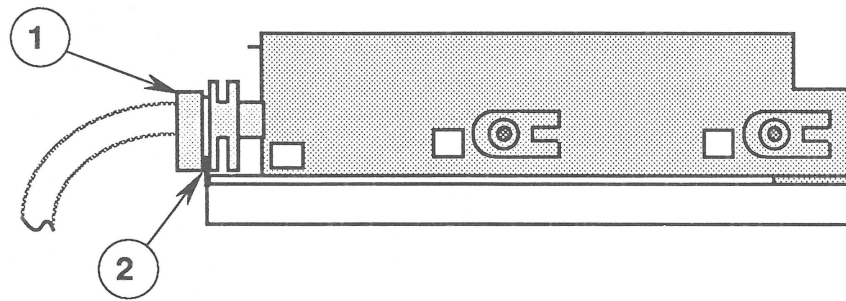

FIGURE 6
5. Replace the outermost groove on the external drive cable anchor (Figure 6, #1) over the edge (Figure 6, #2) of the case top.